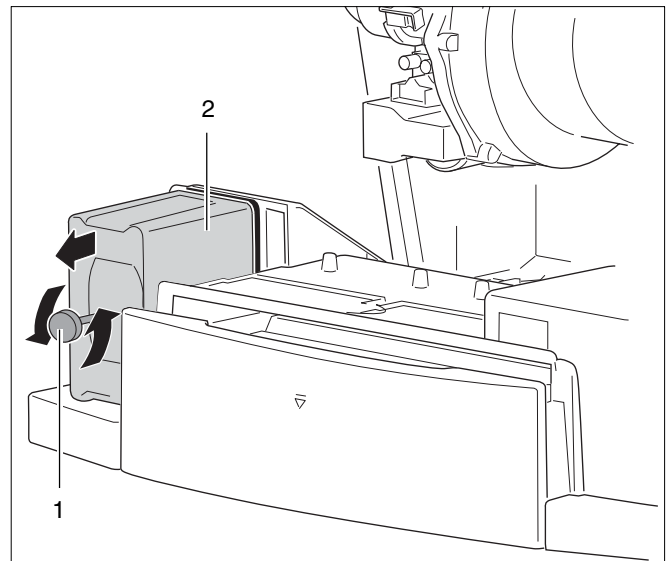

Fig. 74 Dismantling the UBA3
- Loosen the fastening screw of the UBA3 (see fig. 74, pos. 1).
- Pull the UBA3 forward in the direction indicated by the arrow (see fig. 74, pos. 2).
- Re-install the UBA3 (see fig. 74).